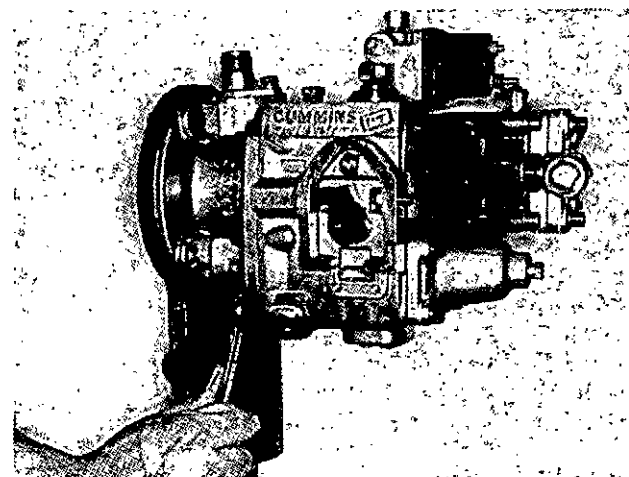

Fig. 1-3, (F5306). Remove the front drive cover from the AFC pump.
1. Remove the drive cover capscrews from the housing. Loosen the cover by hitting the edge with a plastic hammer. Lift the cover off of the dowels and discard the gasket, Fig. 1-3.